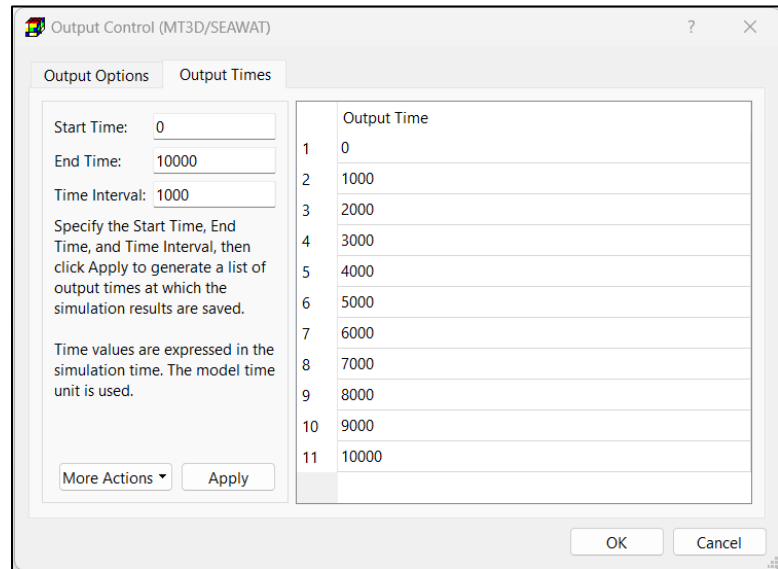

Figure 126. The Output Times tab of the Output Control (MT3D/SEAWAT) dialog box
2. Output Times Tab (Figure 126)